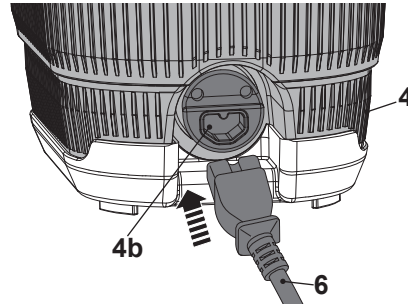

Fig. 9
1. Ensure the water level in the water tank (4) is located between the MIN and MAX markings.
2. Insert the power adaptor of the power cord (6) into the water tank socket (4b) (Fig. 9). Ensure they are properly engaged.
3. Connect the plug of power cord (6) to a suitable mains socket.